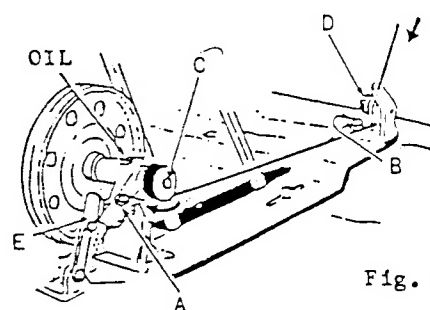

Fig. 8
Place bobbin on spindle (C), pushing it on as far as it will go and pass thread through threading points as shown in Fig. 8.
When winding a bobbin with fine thread, a light tension should be used. Adjust the knurled nut (D), Fig. 8, to regulate the tension.
Oil your bobbin winder occasionally. Apply a few drops of oil to the oil hole in bobbin winder as shown in Fig. 8.